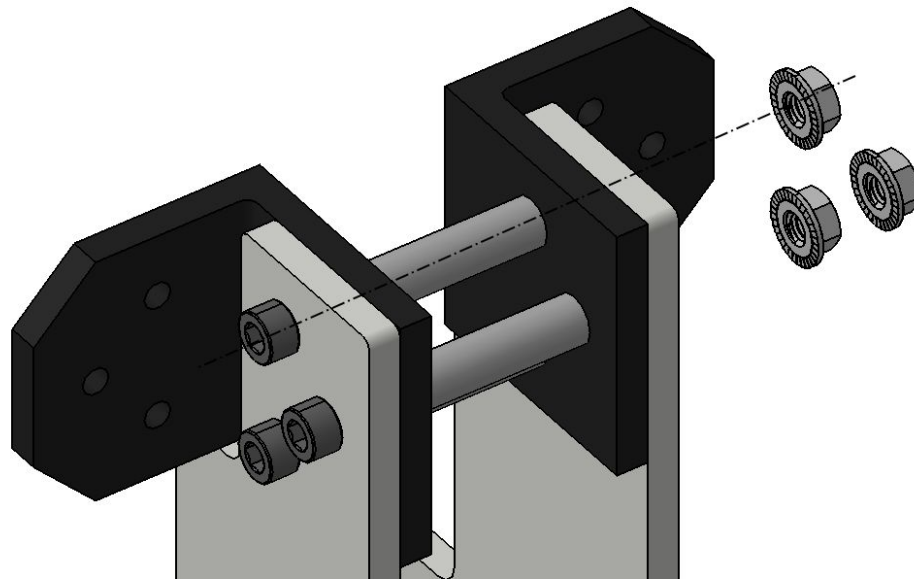

Fig. 4.11: Connect the upper mount
- ❑ Insert the M6 x 70mm socket head screws (#BPRA) through the support plate (#PJBC), then the L bracket (#EPJT), then the spacer (#HYAR), again L bracket and come out on the other plate, shown as Fig 4.11.
- ❑ Rotate the M6 serrated lock nut (#PKQD) into the M6 x 70mm screw as shown in Fig. 4.11.